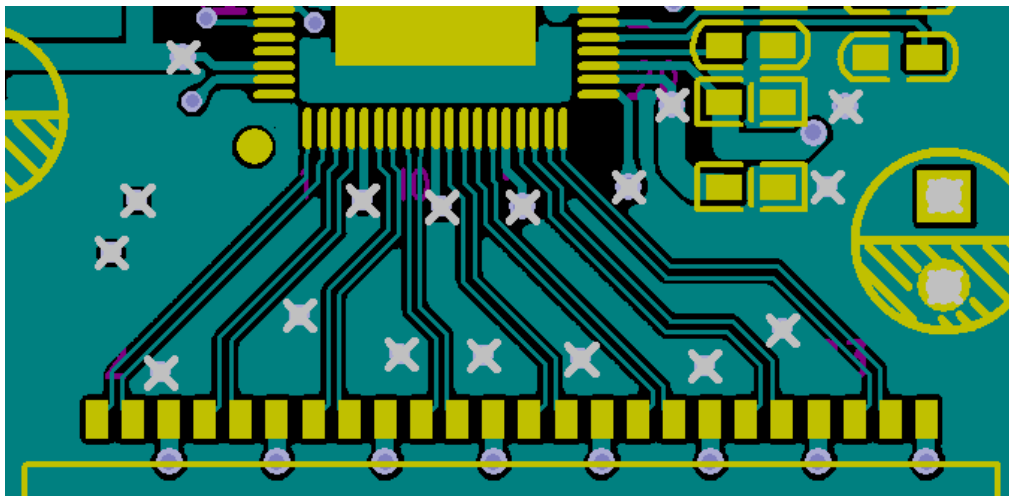

Figure 6. MDI Differential Layout Reference
- MDI Differential layout reference is show in Figure 6.